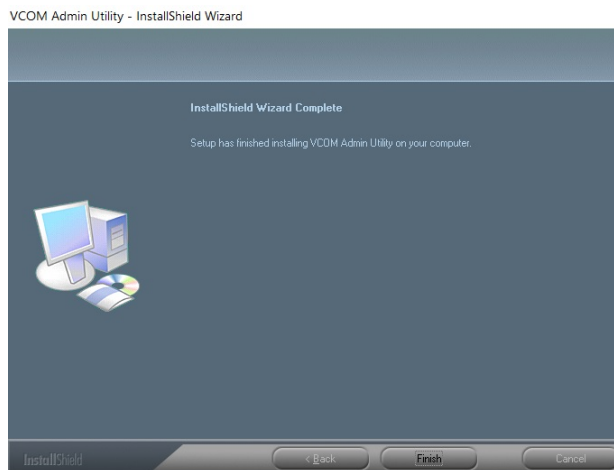

Figure 5-1-4 : Installation Finished
4. Click Finish to successfully complete installation of VCOM software.as shown in Figure 5-1-4.